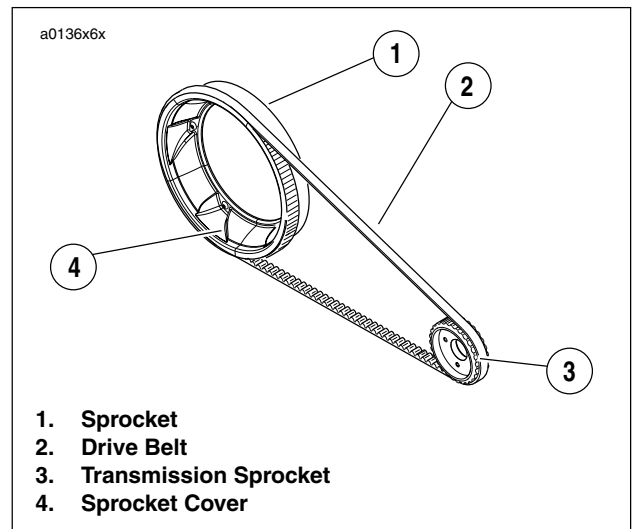

Figure 6-10. Secondary Drive Belt Assembly
5. See Figure 6-10. Place rod or screwdriver through axle hole. Loosen rear axle nut (metric).